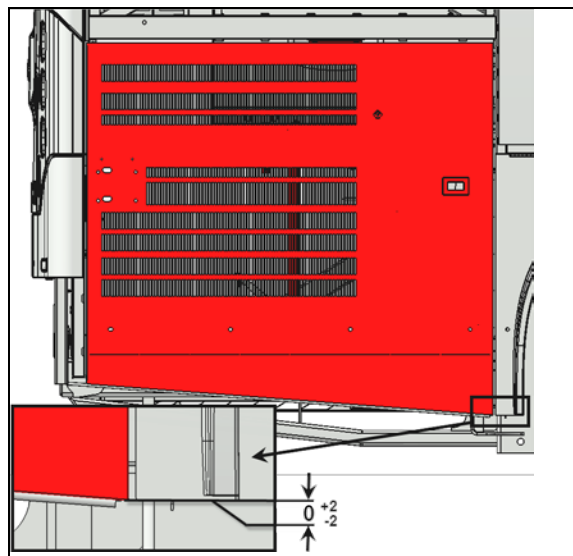

FIGURE 112
3. Compare the lower edge of the door level with the lower edge of the rear fender. The door should be flush with the fender (FIGURE 112).